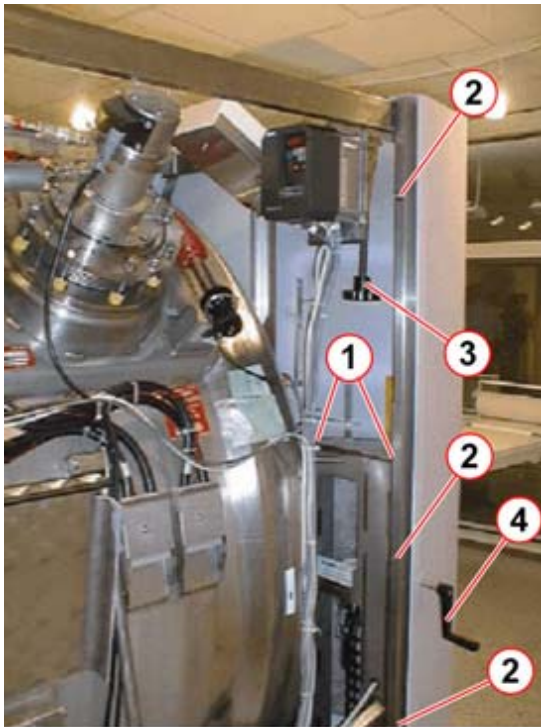

Fig. 1: Column cover remove
- Remove the side cover of the magnet by removing the three screws (2/Fig. 1 / p. 10).